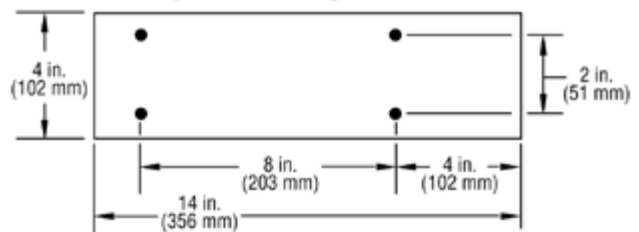

Figure 3: Customer Wiring
8. Temporarily wire Battery Negative to terminal #5, Positive to terminal #4 of the CO3 (Figure 3).
9. Apply a momentary N.O. push button between terminals #1 and #3. When the push button is pressed the CO3 actuator will extend (Figure 3).
13. Place a N.O. momentary push button across terminals #2 and #3 (Figure 3). Press push button. Actuator should retract and disengage clutch. Actuator will back-off and stop when clutch is fully disengaged.